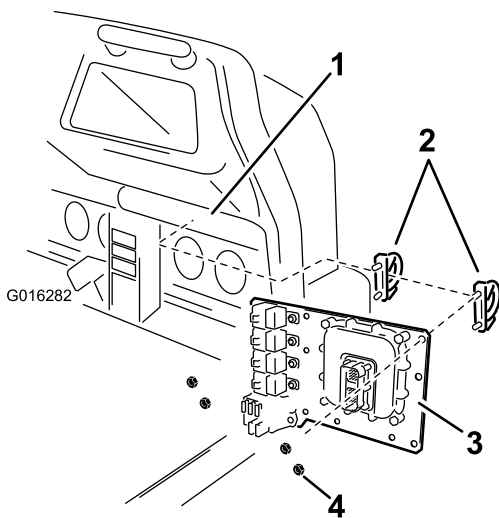

Figure 15
- B. **For the Workman 200 Spray System:** Install the mount plate using 2 U-bolt clamps and 2 nuts (5/16 inch) as shown in Figure 15.